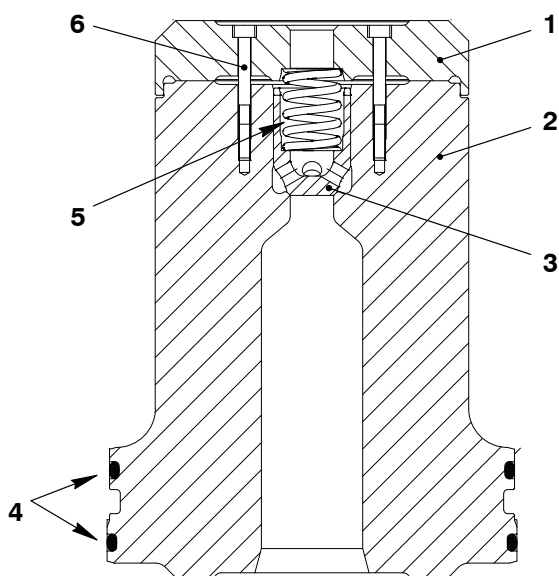

Fig. 14
- 1) Make sure that the sealing surfaces of the valve block (2, Fig. 14) are clean and have no damage.
- 2) Put oil on the new O-rings (4).
- 3) Put the new O-rings (4) on the valve block (2).
- 4) Put the spring (5) in position in the valve body (3).
- 5) Attach the intermediate disc (1) to the valve body (2) with the two bolts (6).
- 6) Torque the two bolts (6) to 4.0 Nm.